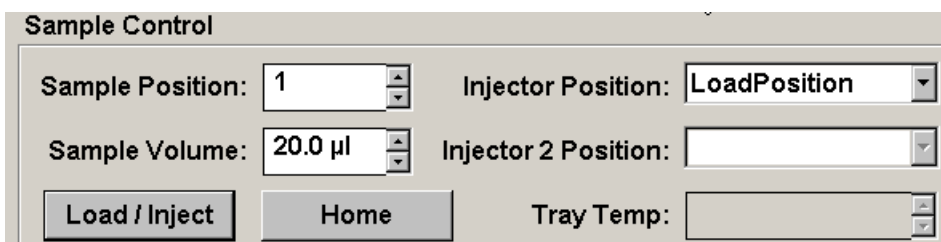

Figure 5-2. Control Panel Load/Inject Button
1. Verify that the autosampler output line is connected to port **S (5)** on the DC (or TC) injection valve. Direct the waste line as required for this autosampler model.
- Manually: Click the **Load/Inject** button on the **Autosampler Control** panel in Chromeleon or Chromeleon Xpress (see Figure 5-2).